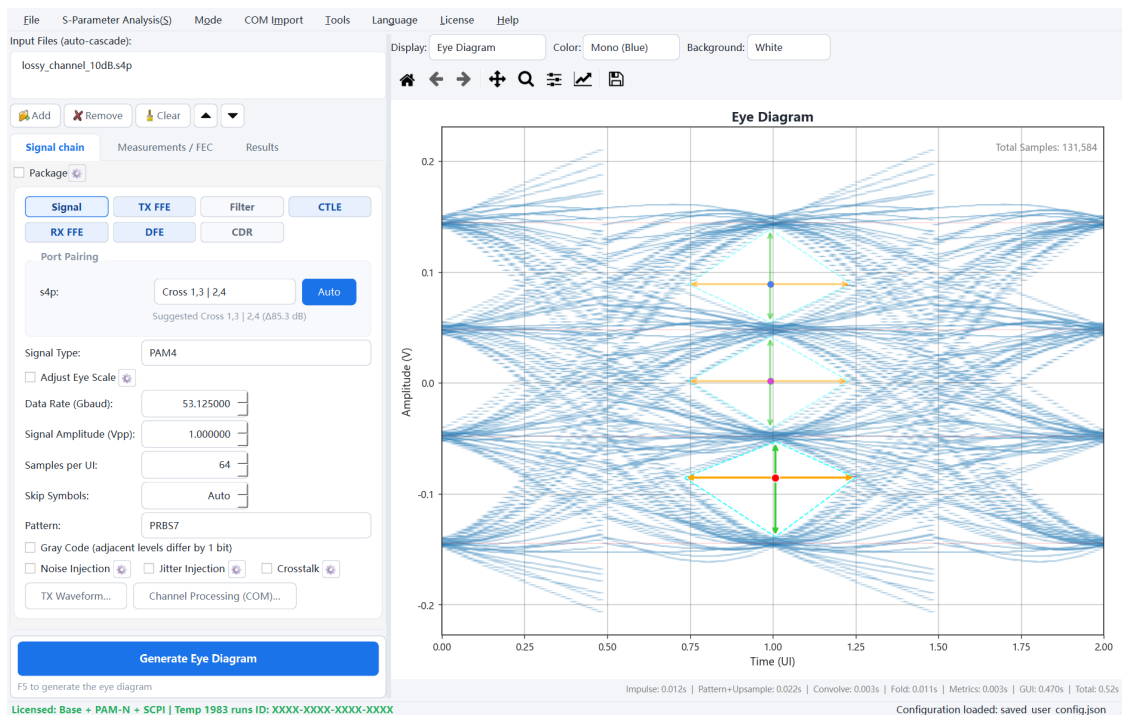

Fig. 6-1 After loading the demo configuration
Step 3 Click "Generate Eye Diagram" — you get a fully equalized link immediately (Fig. 6-1), on par with what you tuned by hand in Step 3.